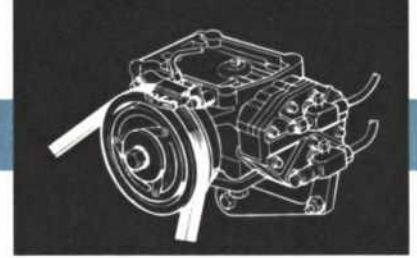

Fig. 21 — Blower Current Draw Test
2. Move the probe to the three terminals on the resistor . . . again with the switch set to the appropriate positions (Fig. 21). A glowing light at these points means there is continuity through the leads.
A current draw test for resistance in the blower circuit is more conclusive than using the testlight. The light will glow even with excess resistance so long as there is continuity in the circuit. The current draw test will tell you definitely if there is excess resistance. This test is illustrated in Fig. 21.